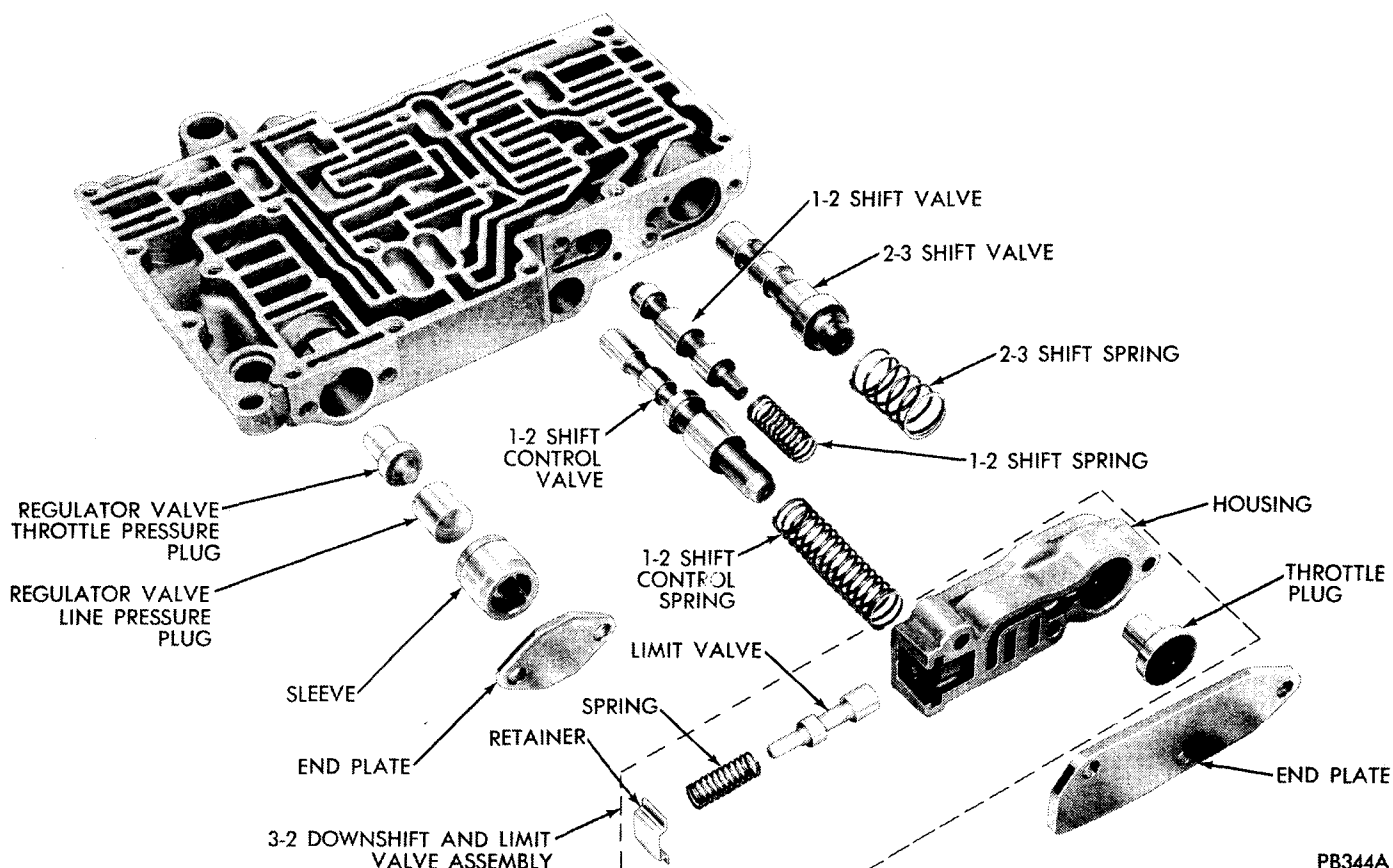

Fig. 41—Shift Valves and Pressure Regulator Valve Plugs
(1) Remove the line pressure regulator valve end plate (Fig. 41) and slide out the regulator valve sleeve, line pressure plug, and throttle pressure plug.
(2) Remove end plate and downshift housing assembly.
(3) Remove throttle plug from housing.
(4) Slide retainer from housing and remove limit valve and spring.
(5) Remove the three springs and shift valves from the valve body.
Shift Valves and Regulator Valve Pressure Sensing Plugs (Fig. 41)